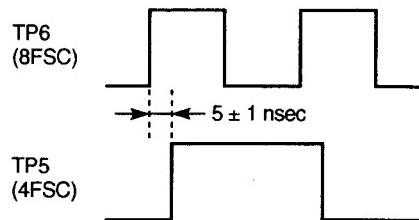

Fig. 5-1-3
- Adjust CT2 to obtain $5 \pm 1 \text{ nsec}$ as shown in Fig. 5-1-3.